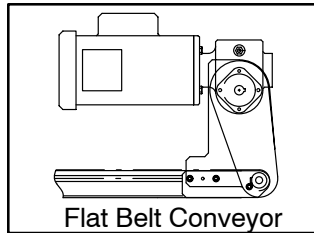

Figure 25
**NOTE:** Gearmotor position on Flat Belt conveyors shown in Figure 25. Gearmotor position on Cleated Belt and MPB Series conveyors shown in Figure 26.